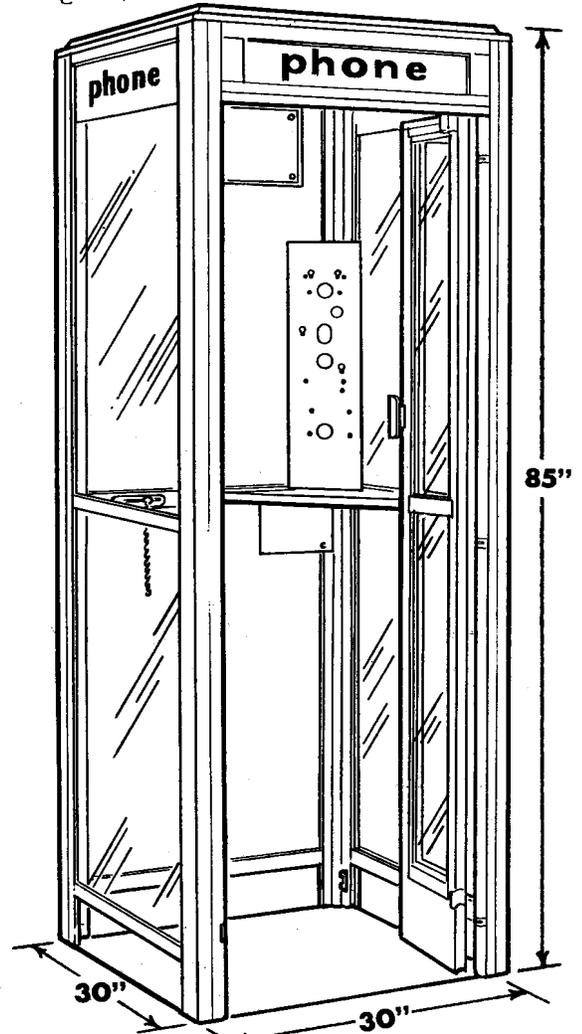

Fig. 2
1.03 The BN 500-F4 is designed for outdoor use. The side and back panels stop 4" above the floor. This helps prevent accumulation of trash on the booth floor. (See Fig. 2)